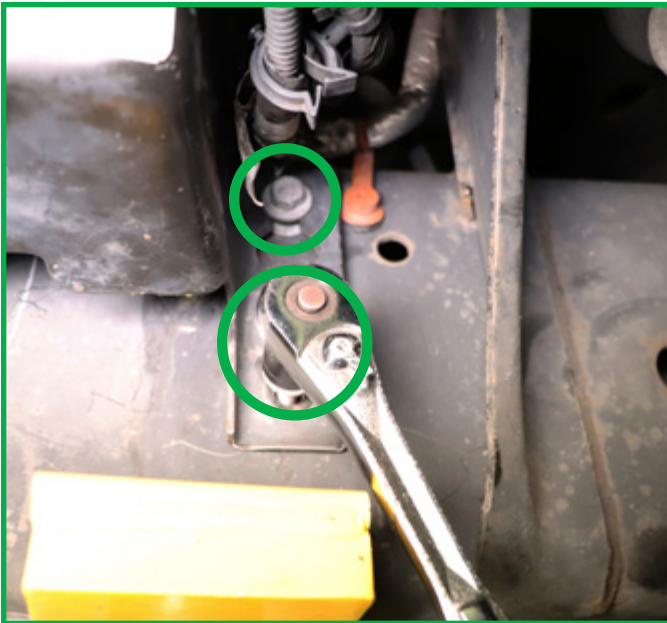

FIGURE 6
6. Loosen and/or remove the four (4) compressor/valve block assembly mounting bolts and remove the entire assembly from the vehicle. (Figures 6, 7, 8)